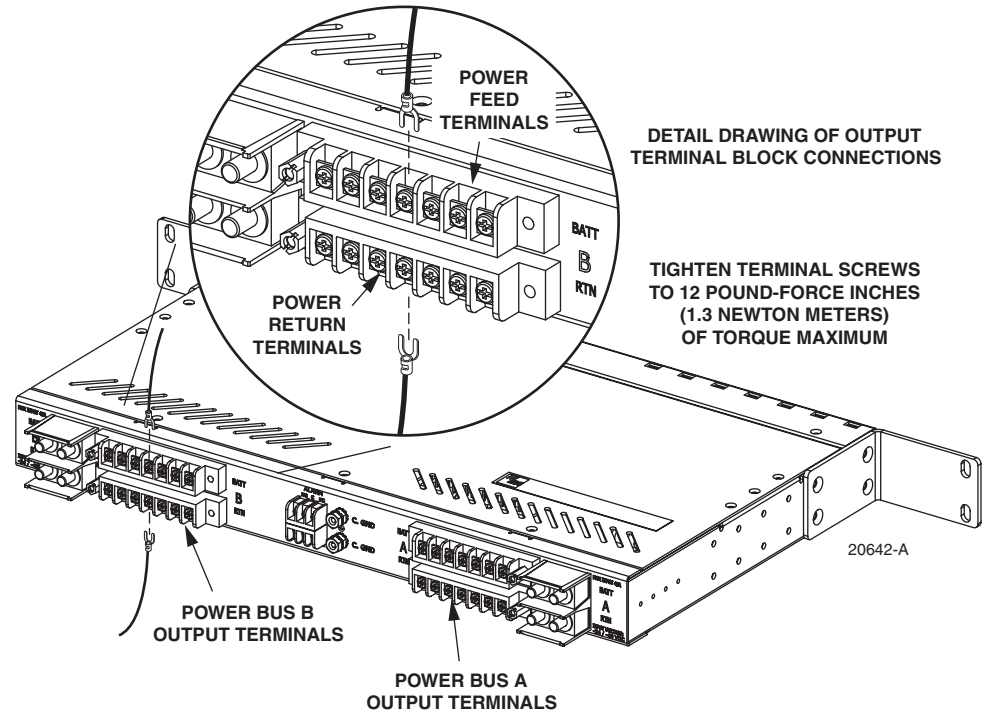

Figure 16. Connecting Power Output
3. Terminate the wires at the screw-down barrier strip as follows (Figure 16):